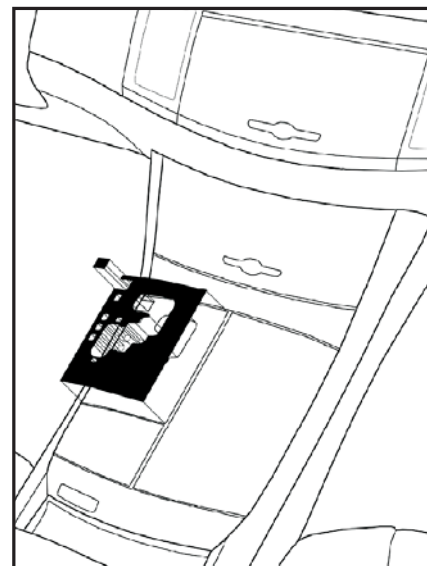

Fig. J1
A. Align part uniformly to edge of factory components. Edge of appliqué should be flush to edge of factory component,  $\pm 1.0\text{mm}$ . (Fig. J1).